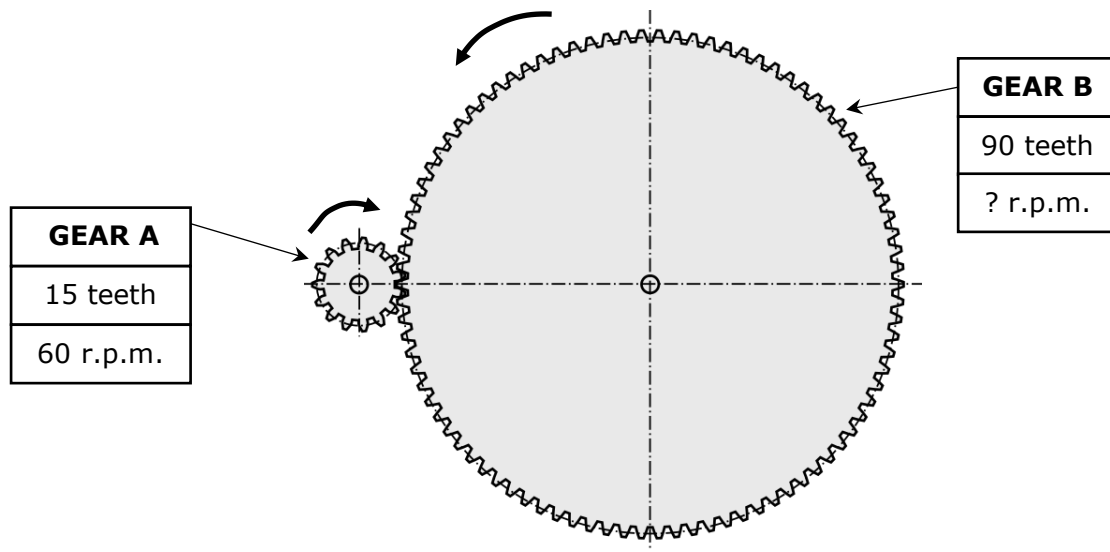

Figure 5
17. A rotating display was constructed for a jewellery shop window. The system of the rotating display consists of an input motor which drives a gearing system to slow down the output rotating speed. Figure 5 shows part of this gearing system.
a. Underline the type of gearing system shown in Figure 5.
- (1)
b. On Figure 5, identify and label the driver gear which should be connected to the motor to make the output gear go slower. (1)
c. Using the information provided in Figure 5: